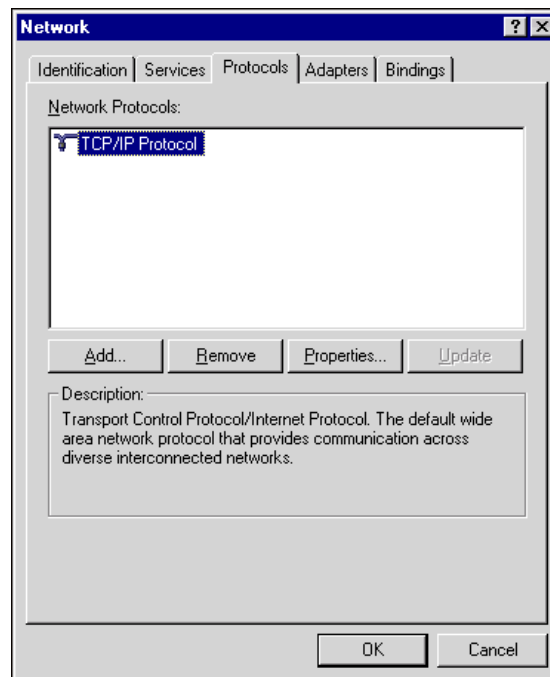

Figure A-1: Windows Network dialog, Protocols tab
5. Select the **Protocols** tab (FigureA-1). If TCP/IP Protocol appears in this list, skip steps 6 and 7.
6. If TCP/IP is not on the list of installed protocols, click **Add** to open the Select Network Protocol dialog (FigureA-1).